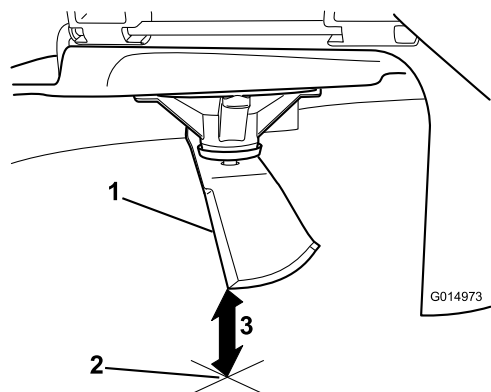

Figure 64
5. Measure from the tip of the blade to the flat surface (Figure 64).